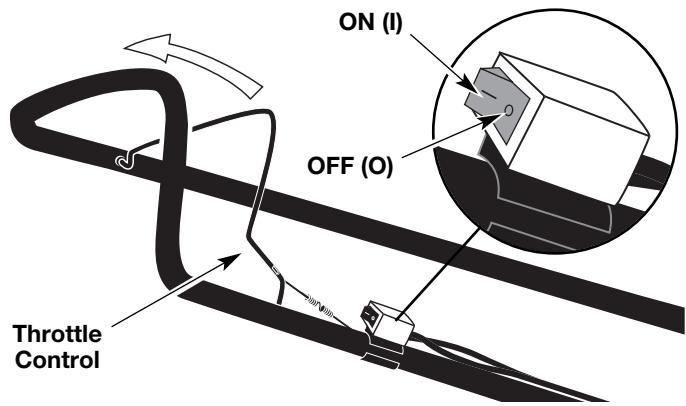

Fig. 10
3. Make sure the On/Off Stop Control in the **ON (I)** position (Fig. 10).